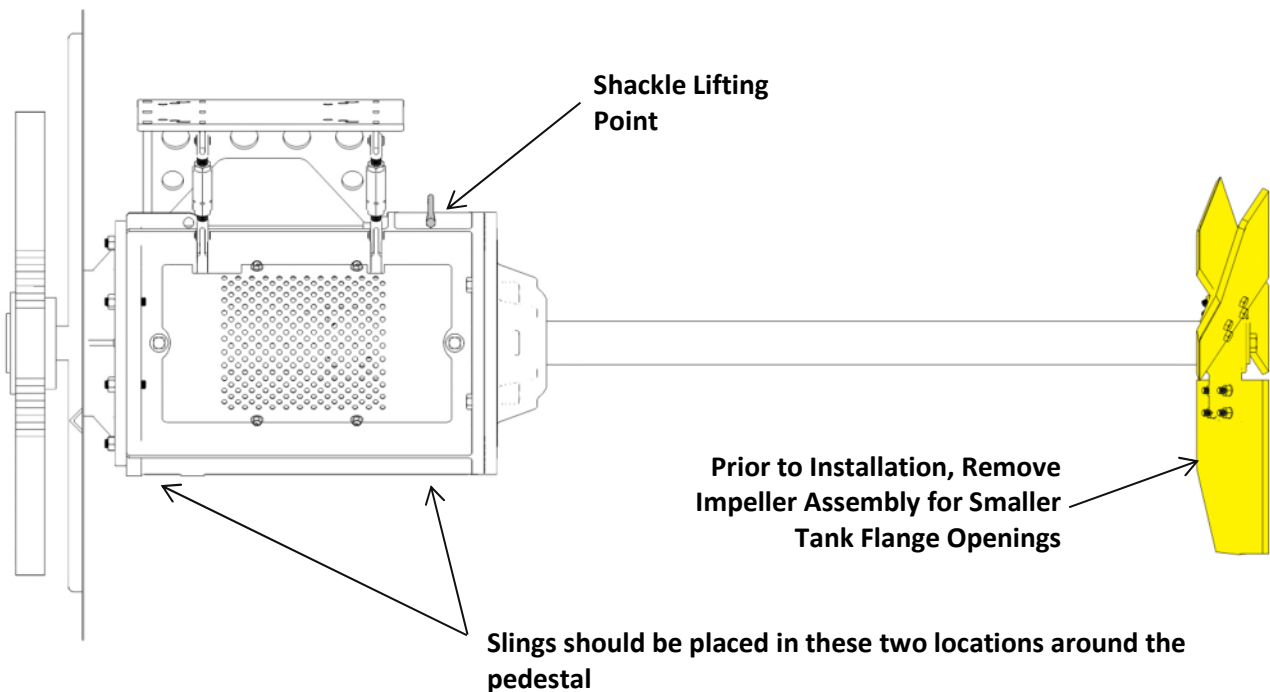

Figure 5: Fixed Agitator Lifting Points
- Lift the agitator with the provided lifting points as shown in **Figure 5**. Stabilize the load as needed by either removing the motor or belt guard, or by adjusting the lifting point or strap lengths to help align the shaft horizontal with the ground during mounting.